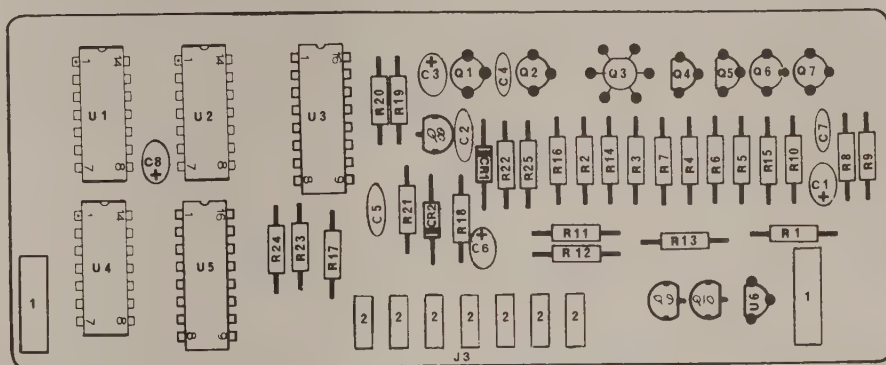

Figure 606-2. Resolution Multiplier PCB Assembly
606-14. Table 606-1 is a list of replaceable parts for the resolution multiplier option. The component locations are found on Figure 606-2
-06	Resolution Multiplier PCB Assembly, (1920A-1206) Figure 606-2